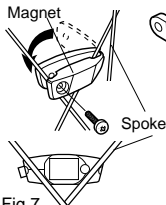

Fig. 7
- Attach the magnet on the right spokes of the front wheel. The spokes must run correctly through the inside of the magnet as in Fig. 7.